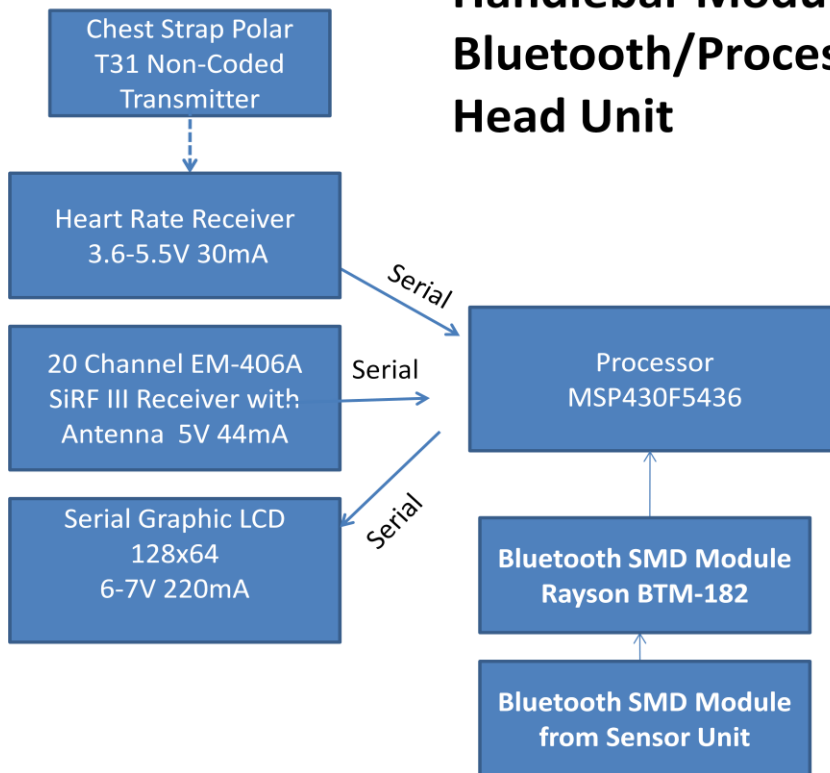
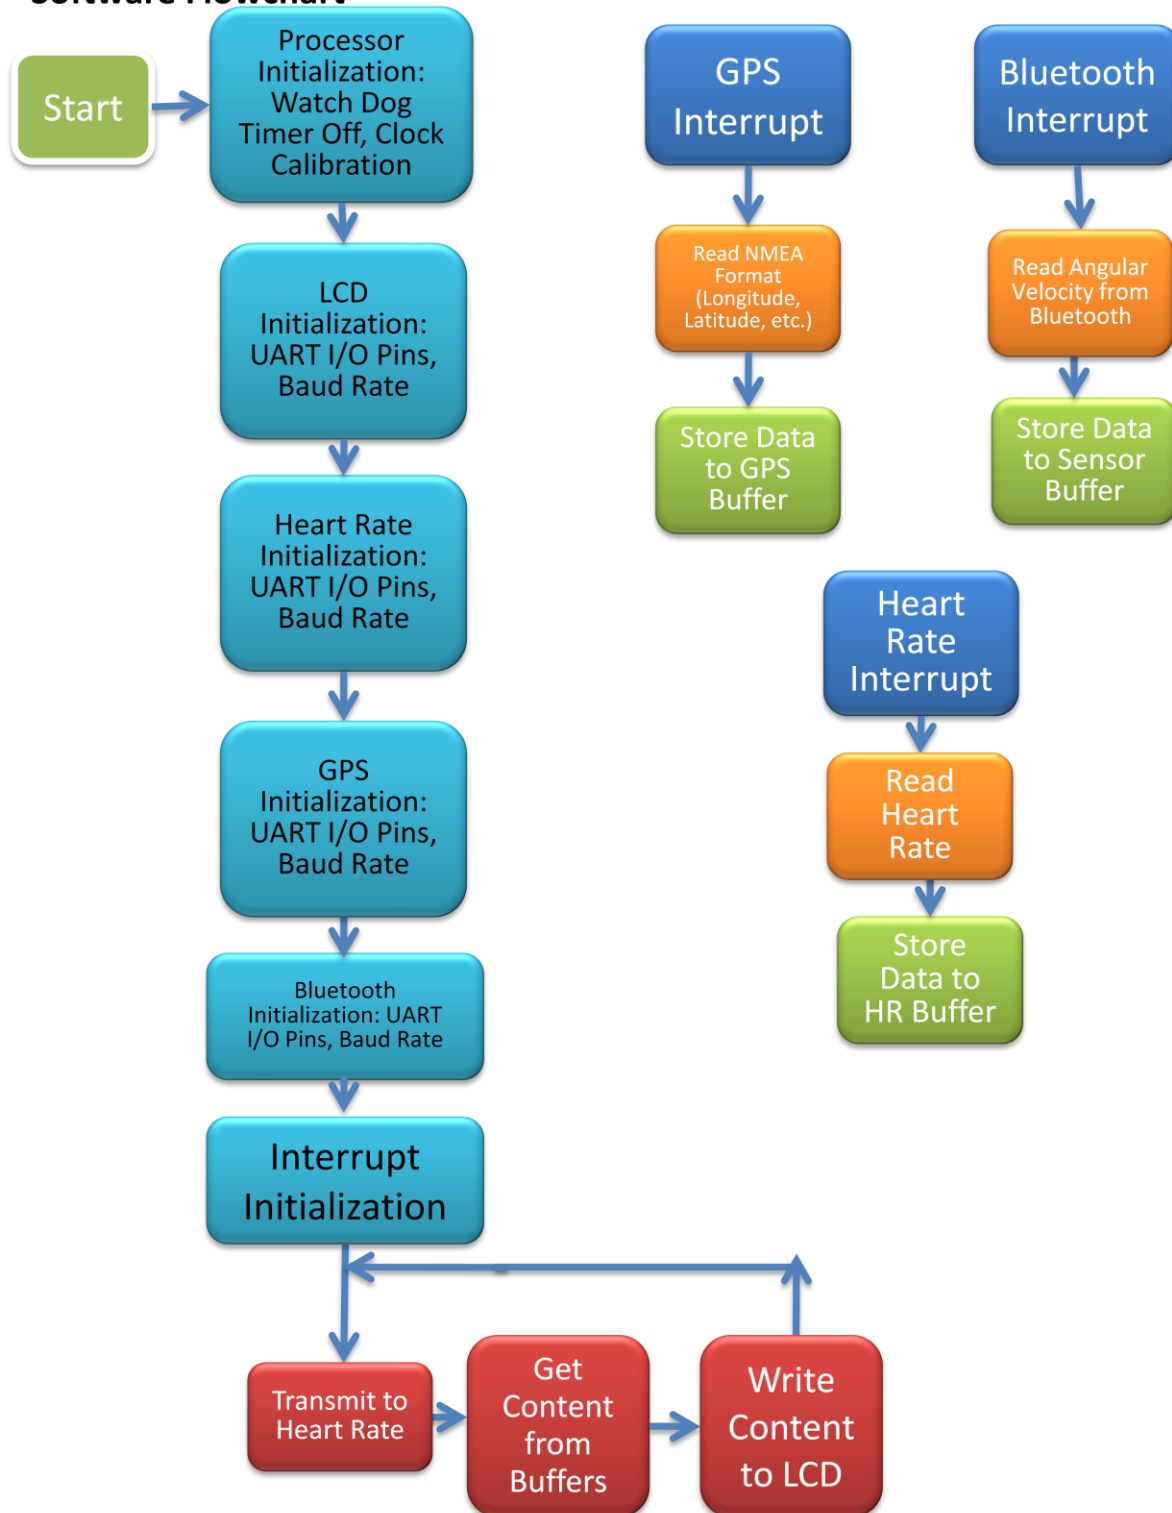

Figure 4: Head Unit Processor Diagram
Figure 5: Software Flowchart
*Refer to Figure 4 for Hardware information and Figure 5 for software information.